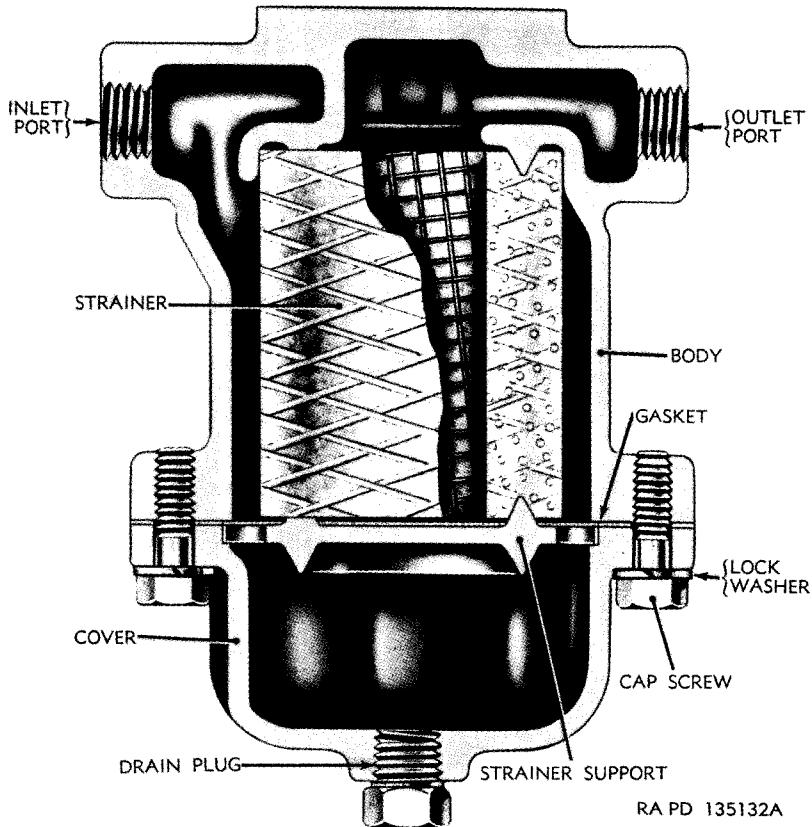

Figure 210. Air filter—sectional view.
b. Operation (fig. 210). The correct direction of the air flow through the filter is indicated by an arrow cast on the body. Air flowing from the truck or tractor to the trailer must pass through the filter in the direction indicated by the arrow. Air flowing through the filter readily